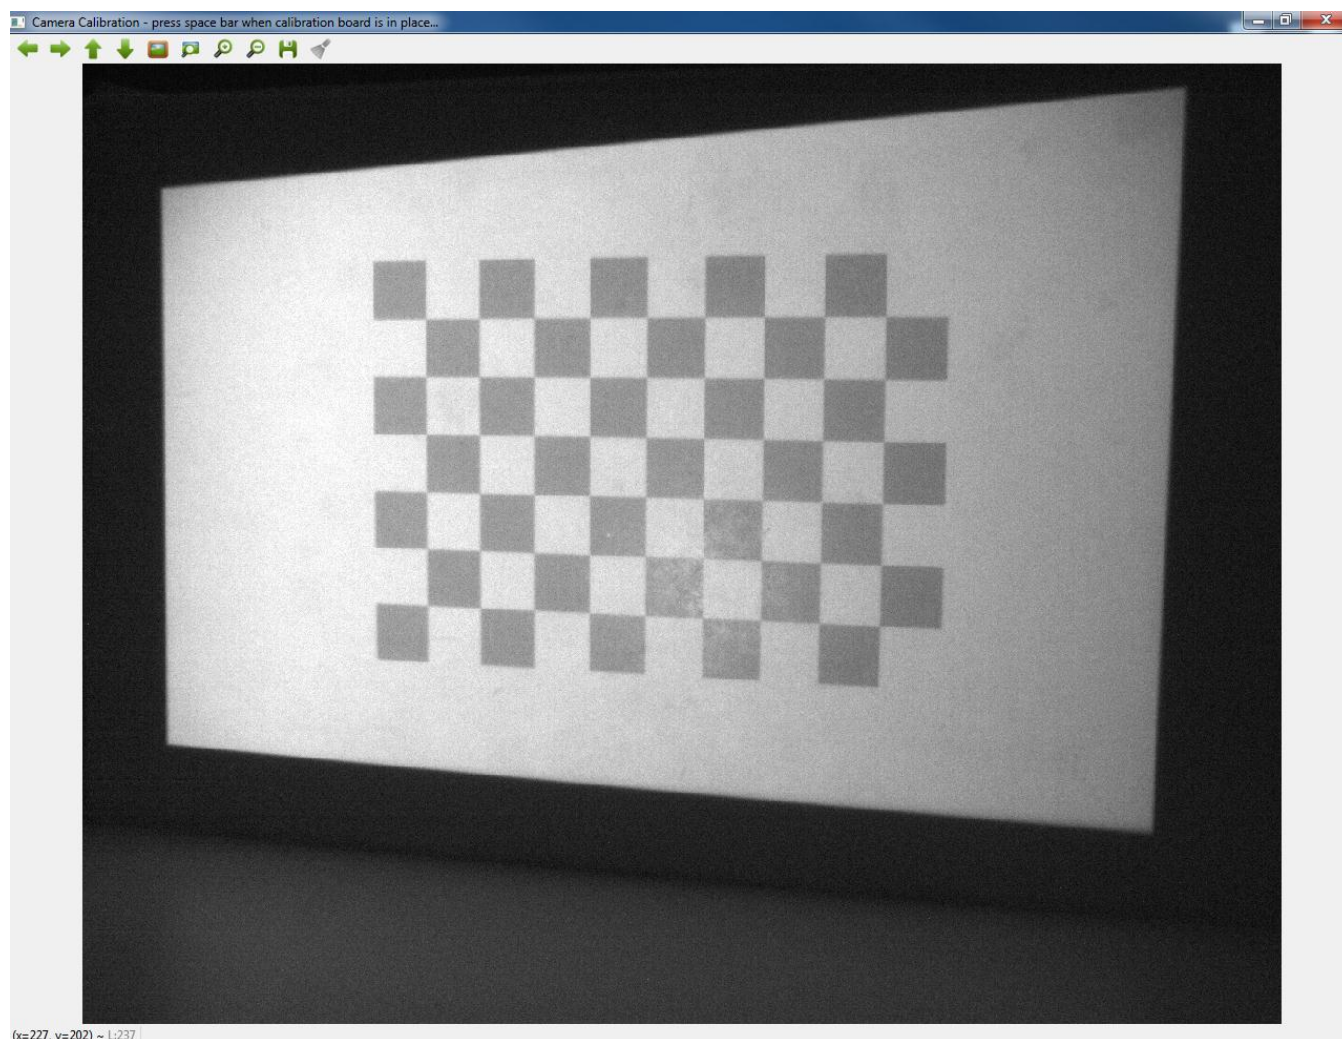

**Figure 3-9. Projector, Camera, Object Spatial Orientation**
4. Make sure there is sufficient distance between the camera and the projector. The camera and projector should be separated by a 20 to 45 degree angle as formed by the object being scanned, shown in Figure 3-9.